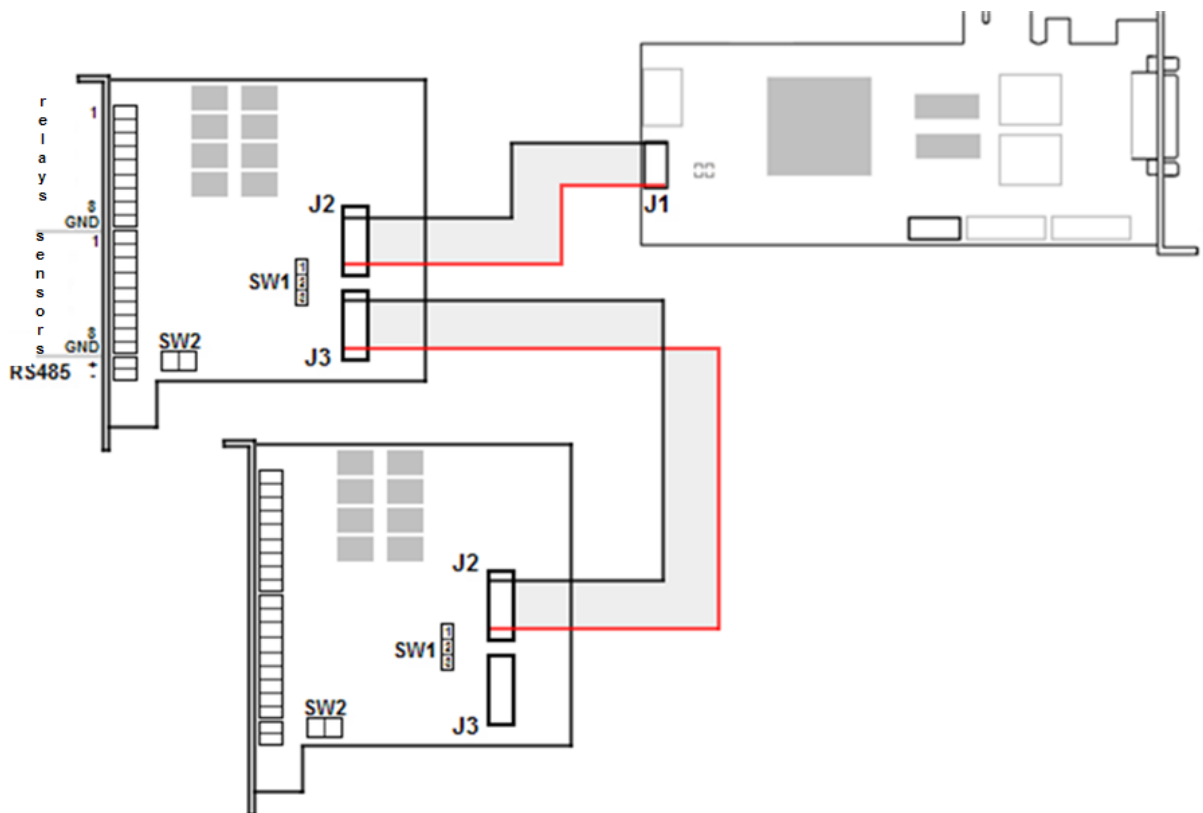

Figure 2.4-20 Connection of DI/DO card to Stretch VRC7008L card
1. If DI needs a power supply (active sensors), then put the SW1 jumper on 2 and 3 contacts, otherwise – on 1 and 2 contacts (passive sensors) (Figure 2.4-20).
3. Connect the DI/DO card to the video capture card with the help of a loop included in the distribution kit. The loop is connected to the J1 and J2 pins (Figure 2.4-20).
4. If it is necessary connect one more DI/DO card. Connect the loop to the J3 pin on the first and to the J2 pin on the second DI/DO card (Figure 2.4-20).
6. Connect DI and DO in accordance with the pinout of external pin of the DI/DO card (Figure 2.4-20).